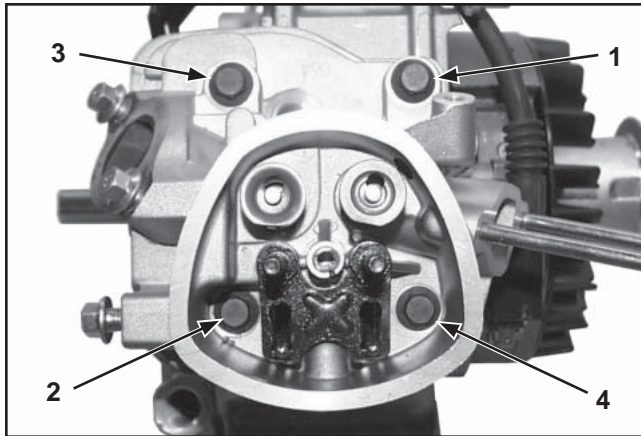

Figure 11-47. Cylinder Head Screws Torquing Sequence.
- 5. Install the cylinder head and start the four hex flange screws. Torque the screws in increments using the sequence shown. See Figure 11-47. Torque the hex flange screws following the table.